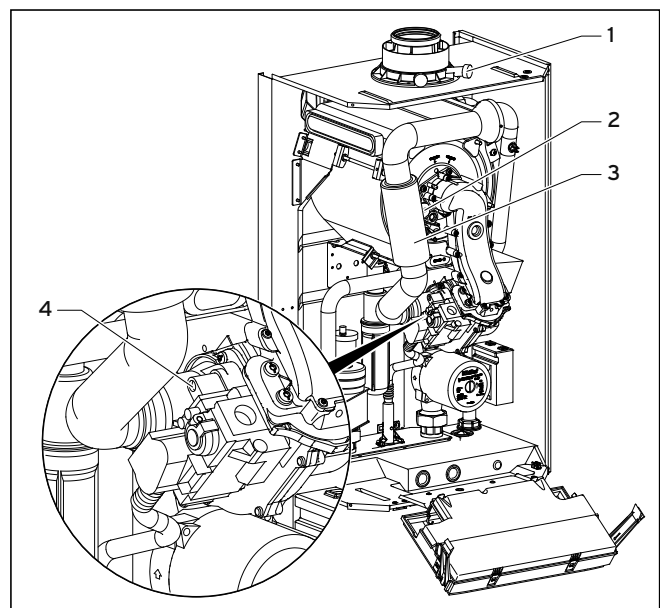

Fig. 8.1 Measuring the CO₂ concentration, specifying the air ratio (gas setting)
- unfasten the screw (Fig. 8.1, 2) and
- fold the air intake pipe (Fig. 8.1, 3) forwards through 90°. Do not remove the air intake pipe.
- Specify the required flue gas value if necessary (value with front casing of boiler removed, see Table 8.1) by turning the screw of the main throttle (Fig. 8.1, 4)